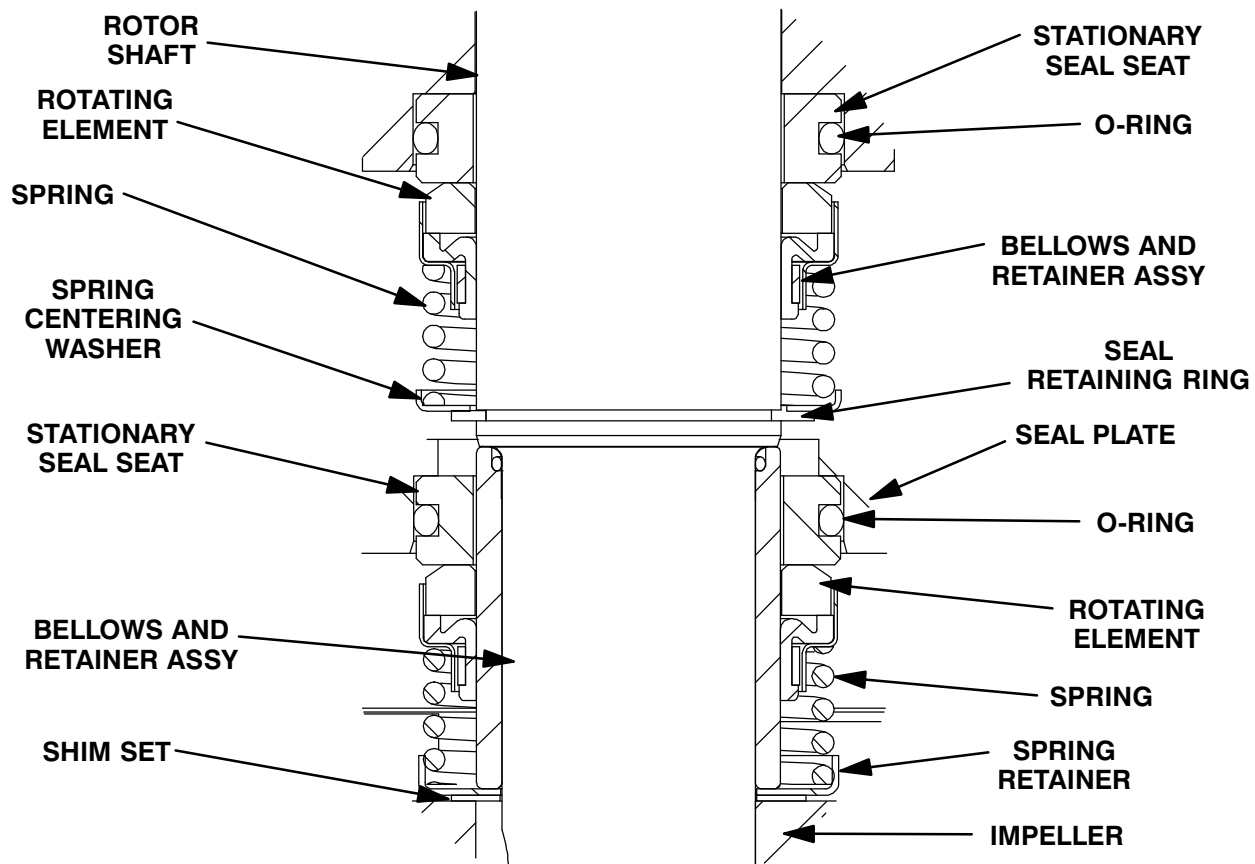

Figure E-3. Upper And Lower Seal Assemblies
Install the shaft seals as illustrated in Figure E-3.
Slide the seal spring over the shaft and bellows retainer and install the spring centering washer. Install the seal retaining ring (10). See Figure E-3 for the proper order of seal assembly.
Install the seal spring over the bellows retainer and install the spring retainer (22). See Figure E-3 for proper order of seal assembly.